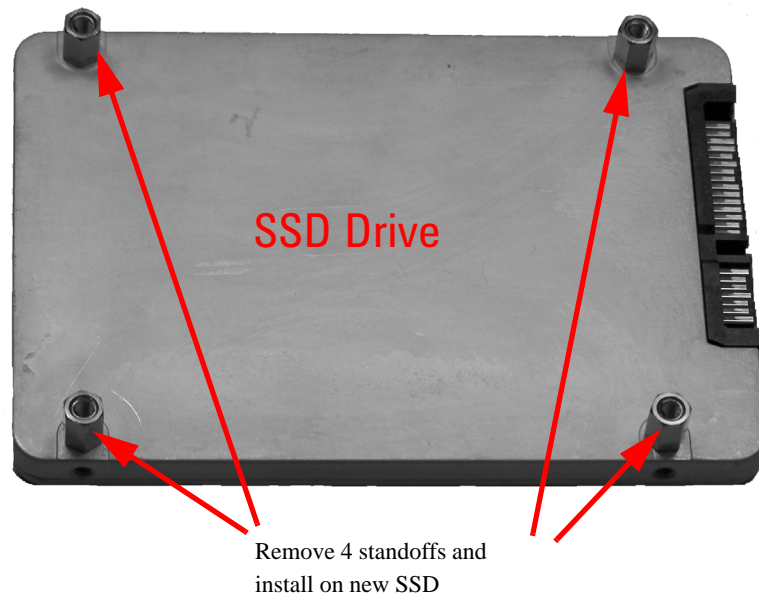

Figure 40 SSD Standoffs
- 6 Remove the four standoffs from the old SSD drive. Install the standoffs onto the new SSD. See Figure 40.